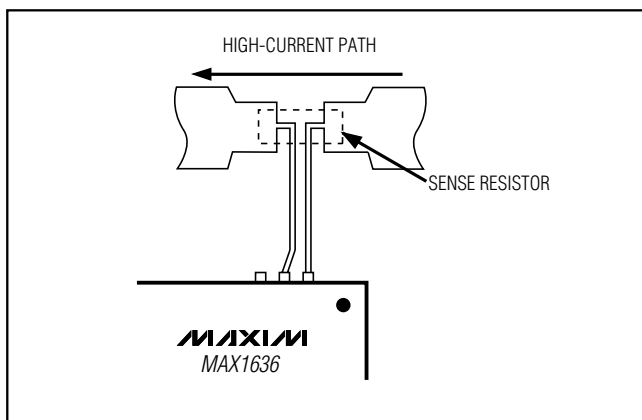

Figure 6. Kelvin Connections for the Current-Sense Resistors
- *Minimize current-sense resistor trace lengths* and ensure accurate current sensing with Kelvin connections (Figure 6).